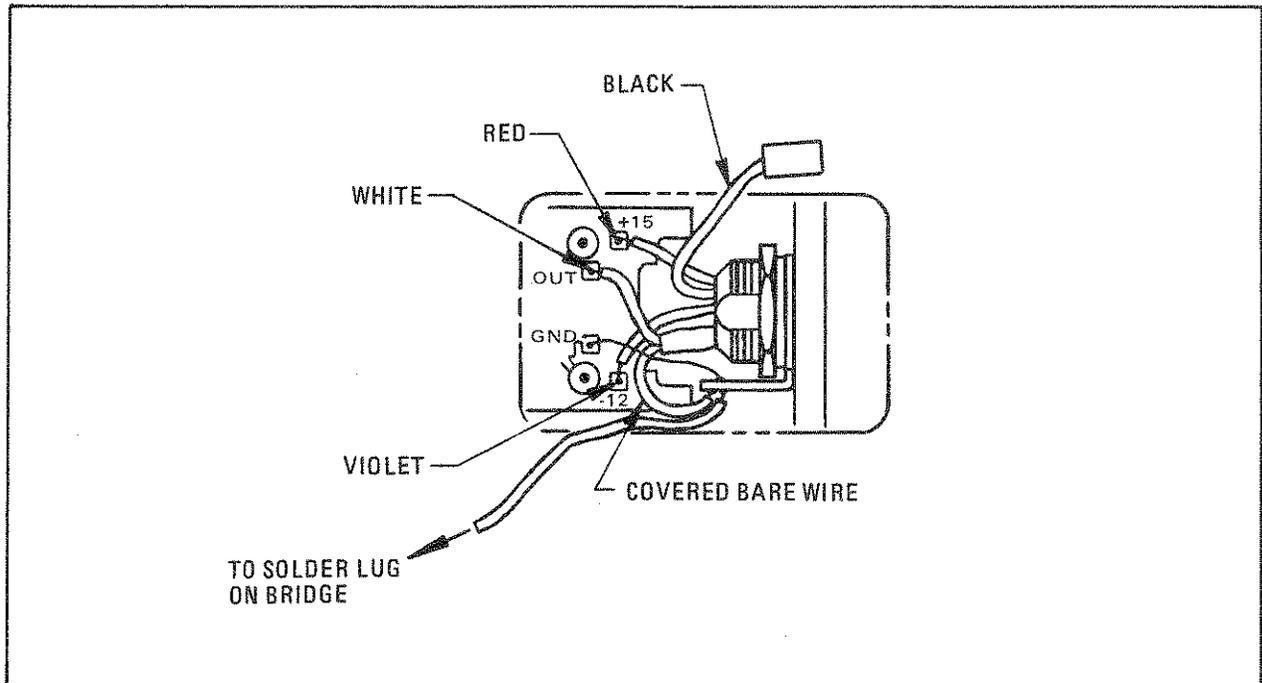

Figure 8-6. Cable to Preamplifier Wiring Diagram
4. To rewire the power cable, refer to Figure 8-6, Cable to Preamplifier Wiring Diagram.